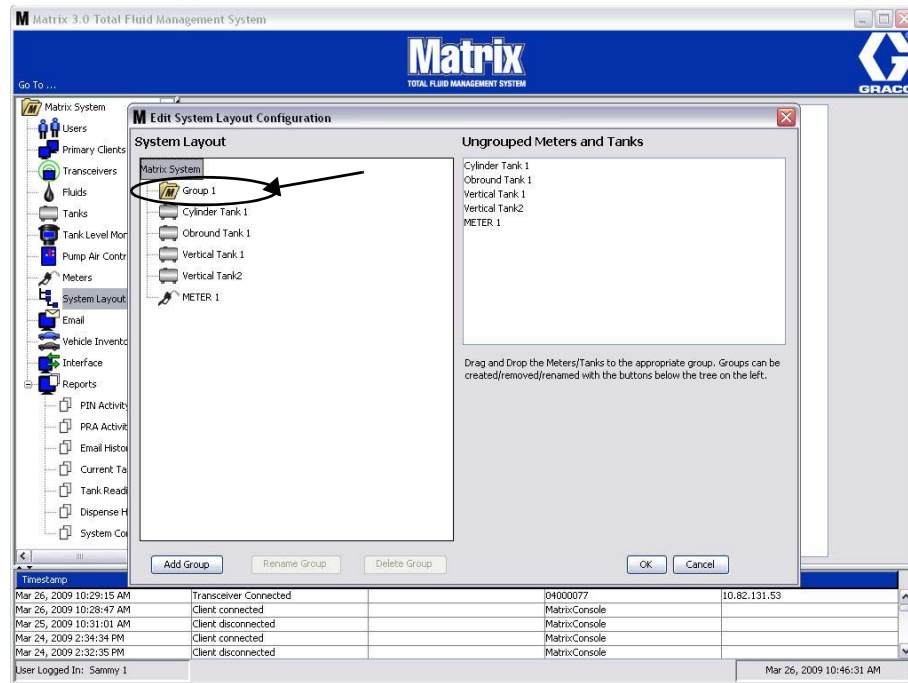

FIG. 140
6. A folder is added on the Matrix System side of the screen as shown in FIG. 140.